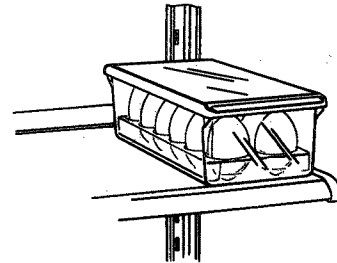

Figure 15
- Some models have a take-to-the-counter egg bucket with a removable tray. See Figure 15.